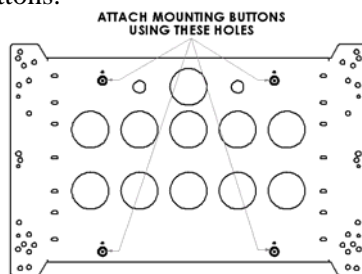
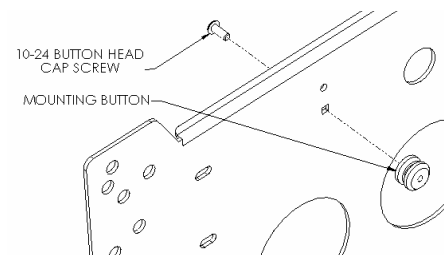

Figure 2
Figure 3
1. Using a 10-24 button head cap screw inserted from back side of bracket through square holes, secure mounting button, with chamfered hole of mounting button (larger surface) facing bracket, to bracket (four places) (see Figure 2 & Figure 3). Make sure bends of interface bracket face away from buttons.